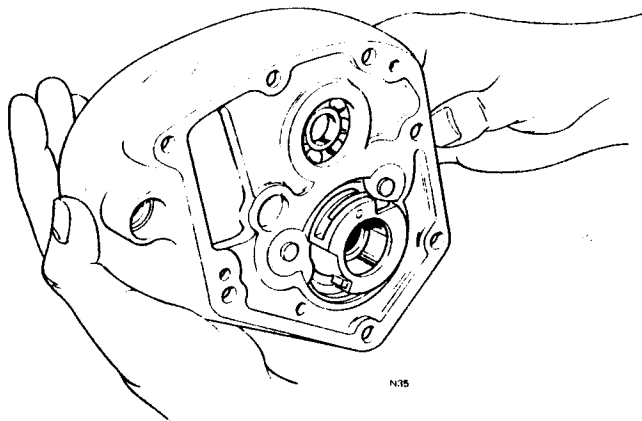

Fig. D5 Showing kickstart pawl stop on inner cover
- 2 If the kickstart spindle has been removed from the gearbox inner cover, it must be refitted at this stage. Assemble the kickstarter spindle to the inner cover, ensuring that the pawl is behind the stop on the inner cover as shown in *Fig. D5*.